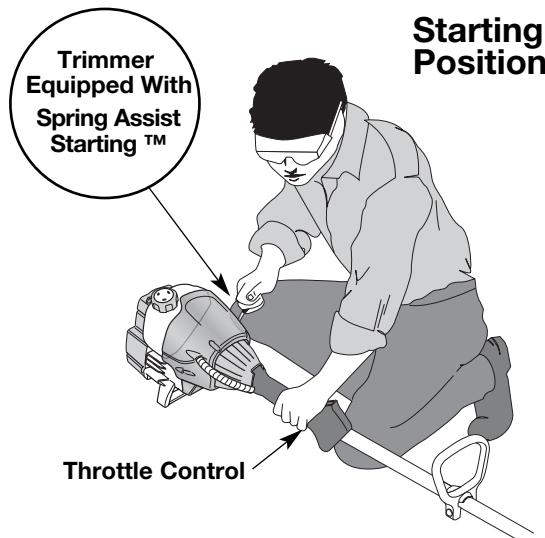

Fig. 8
**WARNING:** Avoid accidental starting. Make sure you are in the starting position when pulling the starter rope (Fig. 8). To avoid serious injury, the operator and unit must be in a stable position while starting.
- 4. Crouch in the starting position (Fig. 8), squeeze the throttle control, and pull the starter rope briskly 5 times.